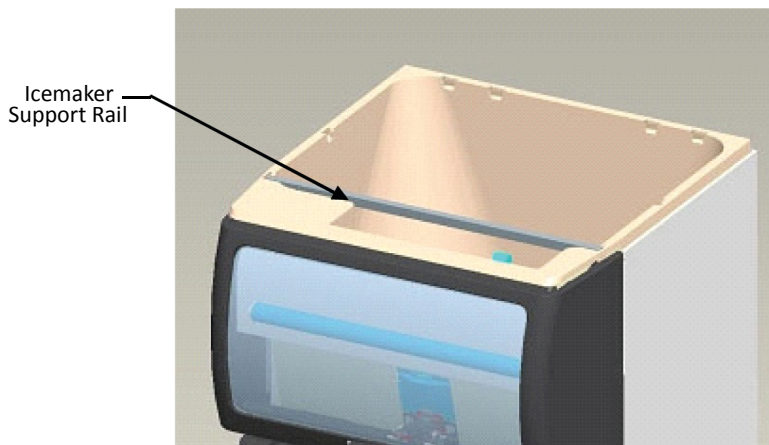

Figure 2.
2. Place icemaker support rail into the front set of pockets in the ice bin as shown in Figure 2.